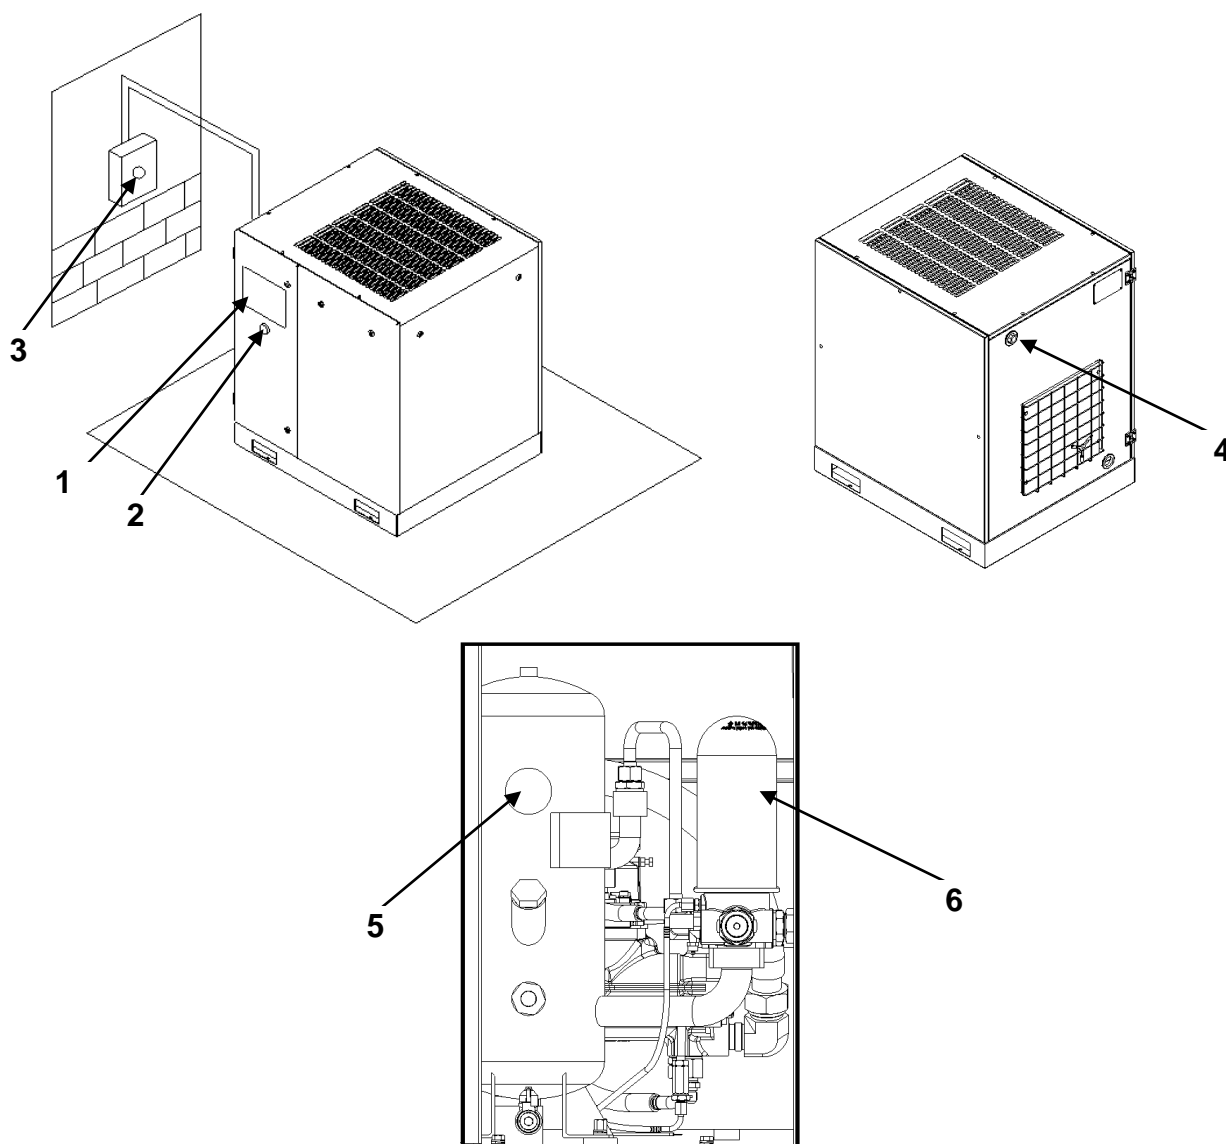

FIG. 18
- After about 1 minute switch off the machine by pressing "STOP" (Ref. 1 FIG. 18) after a few seconds of idle running the machine will switch off.
- Press the "STOP" button Ref. 1 FIG. 18.
- Press the "EMERGENCY STOP" button Ref. 2 FIG. 18.
- Turn off the main supply switch Ref. 3 FIG. 18.
- Turn off the Outlet valve Ref. 4 FIG. 18.
- Check there is no pressure inside the machine: check the pressure gauge Ref. 5 FIG. 18.
- Change the oil-separating filter Ref. 6 FIG. 18.